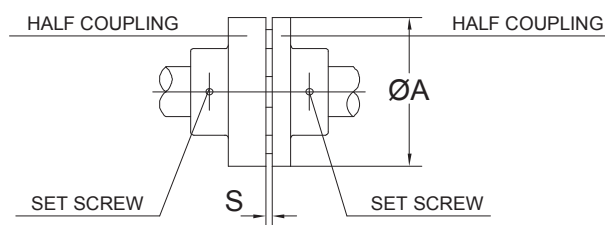

Fig. 20
- 5 - With a proper spacer check the distance between the two coupling halves. The gap value "S" should be as listed on table 2 or as given by the coupling manufacturer. In the event an adjustment is necessary, loosen the set screws on the coupling half and with a screw driver move the coupling half to attain the gap "S" (see fig. 20). Then tighten the set screw and rotate the rotor by hand to make sure, once more, that there is no obstruction.